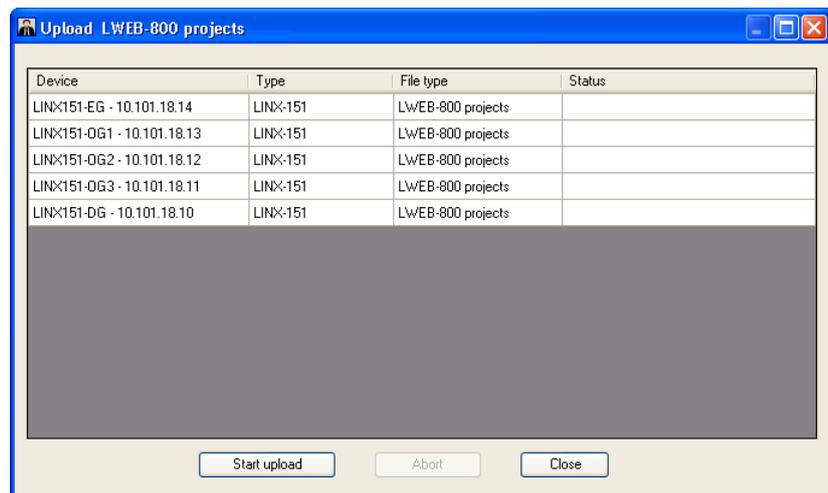

Figure 200: Upload LWEB-800 Projects Dialog
3. The **Upload LWEB-800 projects** dialog opens as shown in Figure 200. This dialog displays a list of devices and the LWEB-800/802 projects which will be uploaded. To start the upload, press the **Start upload** button.